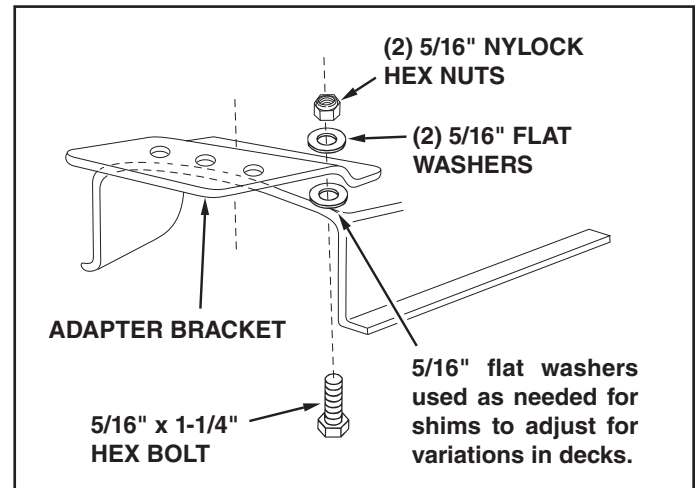

FIGURE 14
- Assemble the adapter bracket to the deck using two 5/16" x 1" hex bolts, 5/16" flat washers and 5/16" Nylock hex nuts. See figure 14.
NOTE: It may be necessary to use extra 5/16" flat washers to shim under the bracket next to the deck surface. Ten extra washers have been furnished as shims. See figure 14.